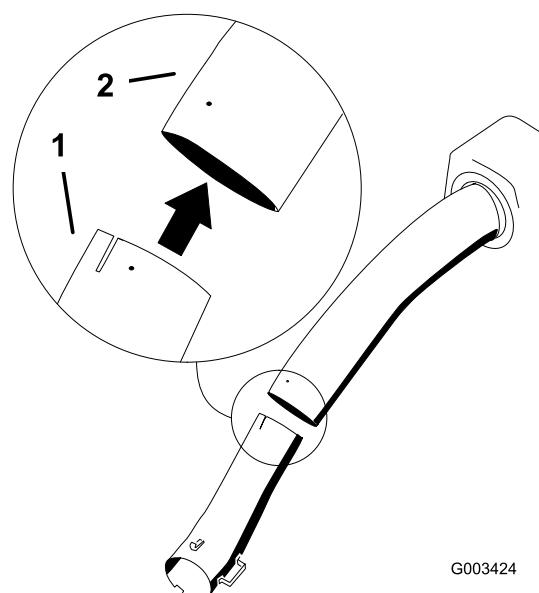

Figure 23
- 8. Install the lower tube into the upper tube (Figure 23).